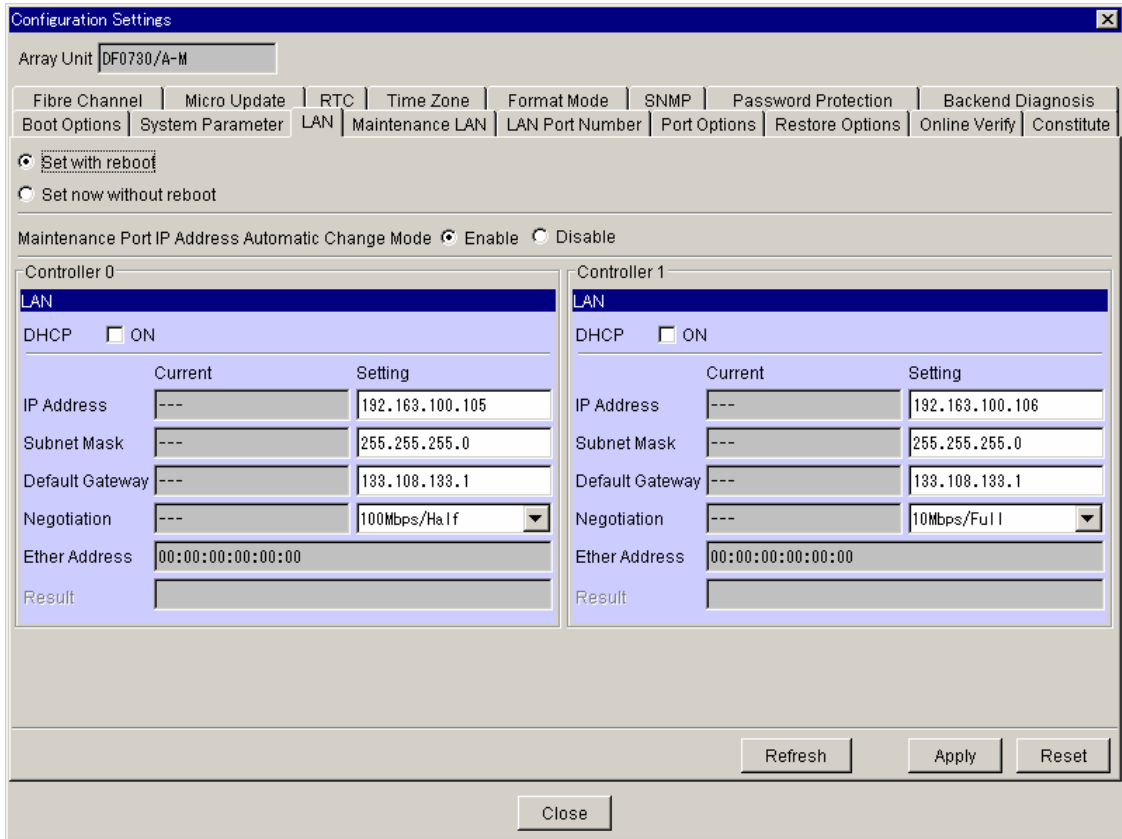

Figure 5.25 Setting LAN Configuration with a Reboot
3. Click the **LAN** tab (see Figure 5.25). For a detailed description of the **LAN** tab, refer to section 5.1.3.
3. Click the **Maintenance LAN** tab (see Figure 5.25). For a detailed description of the **Maintenance LAN** tab, refer to section 5.1.4.
3. Click the **Port Options** tab (see Figure 5.25). For a detailed description of the **Port Options** tab, refer to section 5.1.4.
3. Click the **Restore Options** tab (see Figure 5.25). For a detailed description of the **Restore Options** tab, refer to section 5.1.4.